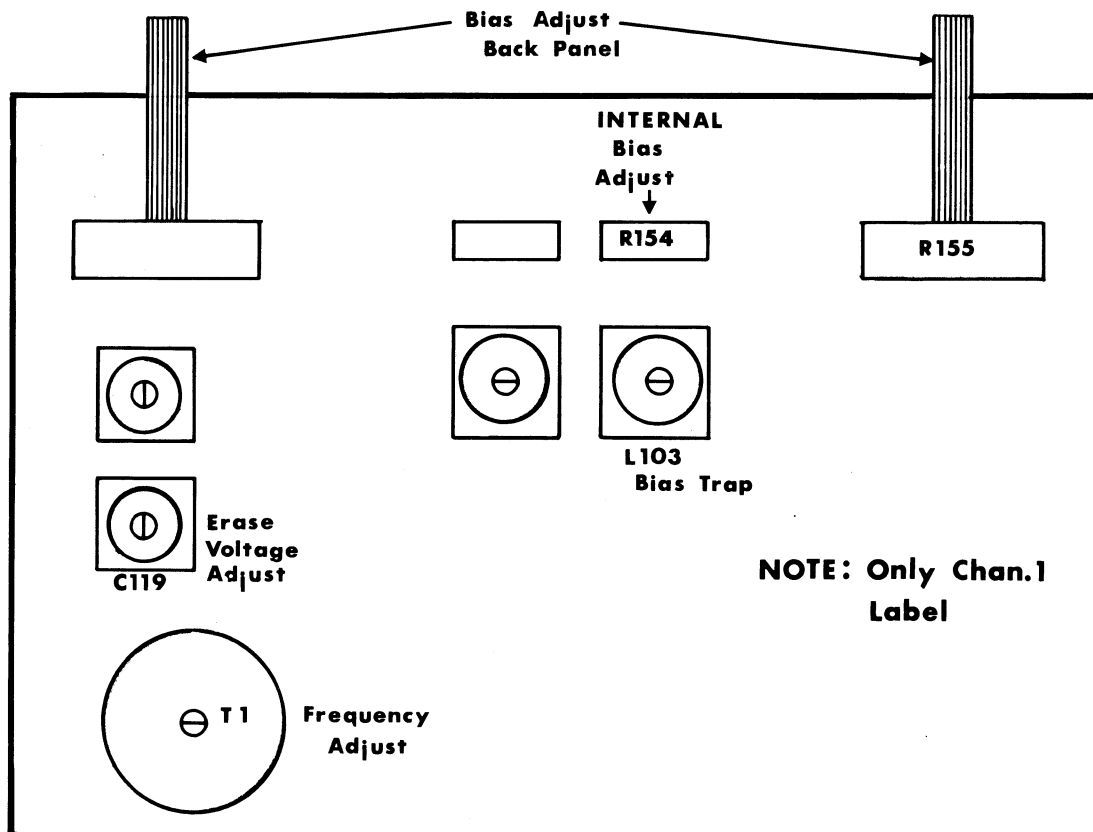

FIG. 10-10 OSCILLATOR BOARD OUTLINE
- A. Set oscillator to 100KHz $\pm$ 5K-O, (slug of T-1 on OSC board) (See fig. 10-10).
1. This can be done by connecting the audio voltmeter to the Q107 side of the record level control (R151 on Main Board) and adjusting the bias traps L103 (See fig. 10-10, and 10-11).